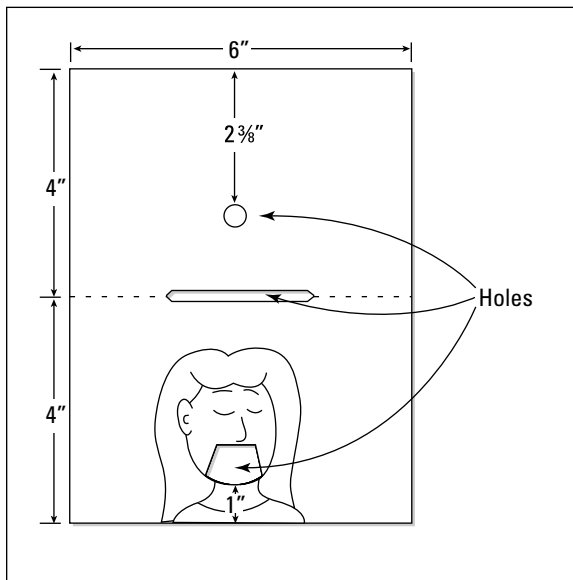

Figure 7-20:
1. Copy the template onto a sheet of card (Figure 7-20).